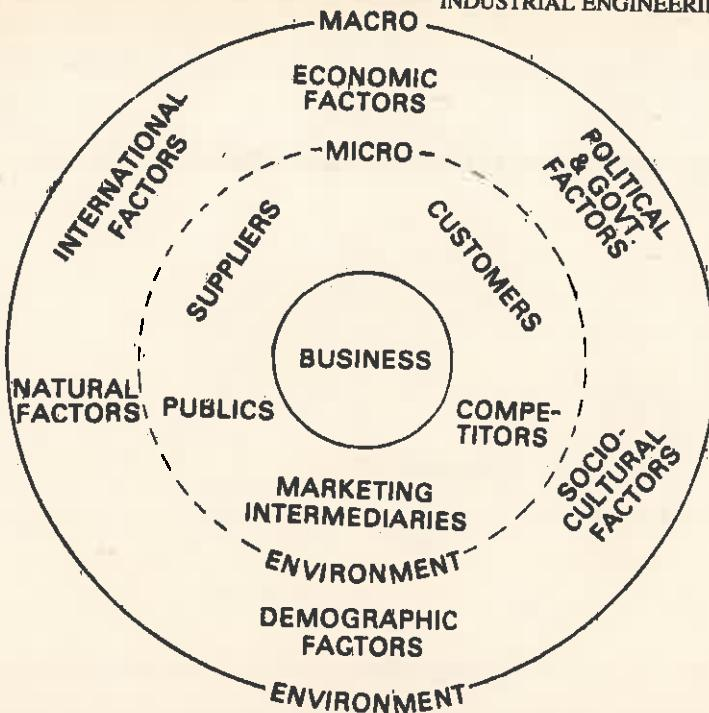

Fig. 37.2 Constituents of business environment
- (2) These environmental factors are *dynamic*. They keep on changing as time passes and so does business.
- (3) A particular business firm, by itself, may not be in a position to change its environment. But along with other firms, business will be in a position to mould the environment in its favour, to a large extent.
- Fig. 37.2 shows constituents of business environment.
- (1) Micro Environment
- (2) Macro Environment
- The **micro environment** consists of the factors of the firm's *immediate environment*, (Fig. 37.2).
- The **macro environment** consists of larger societal forces that affect all the factors in the company's micro environment, (Fig. 37.2).